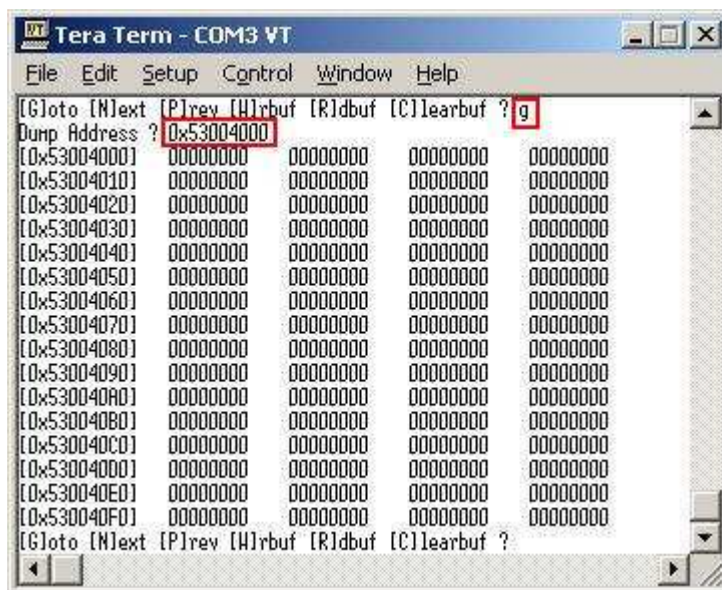

Figure 14 Goto submenu example
- 'G': this submenu is used to select the address to read, as shown in Figure 14. The address can be input to be hex value by adding prefix "0x", so normally input will be received in decimal value.